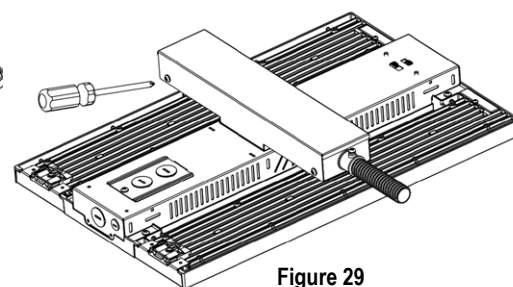

Figure 29
5. Install the transformer mounting kit cover on the mounting kit and tighten the screws. (see Fig. 29)